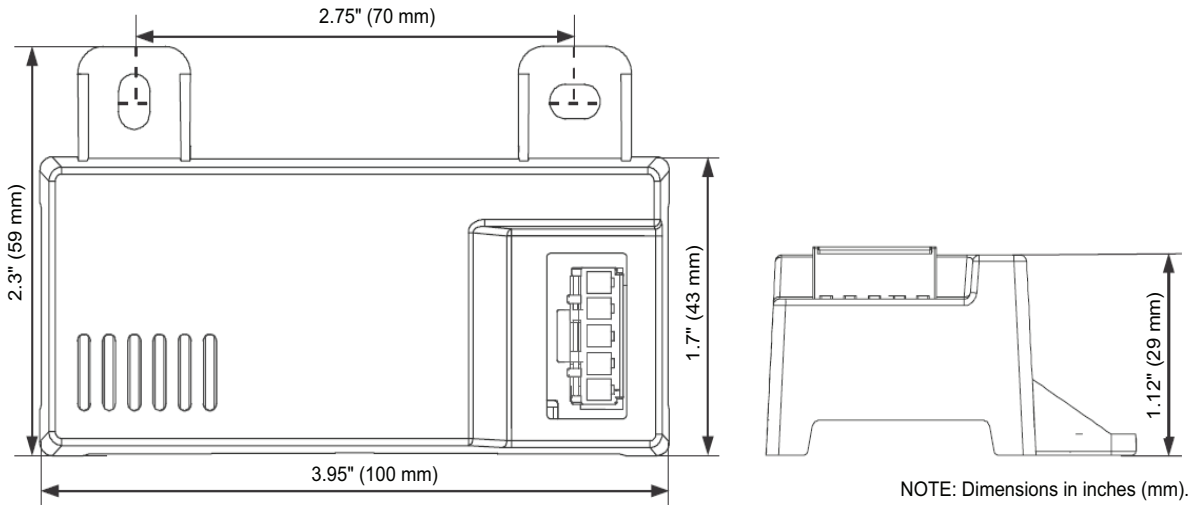
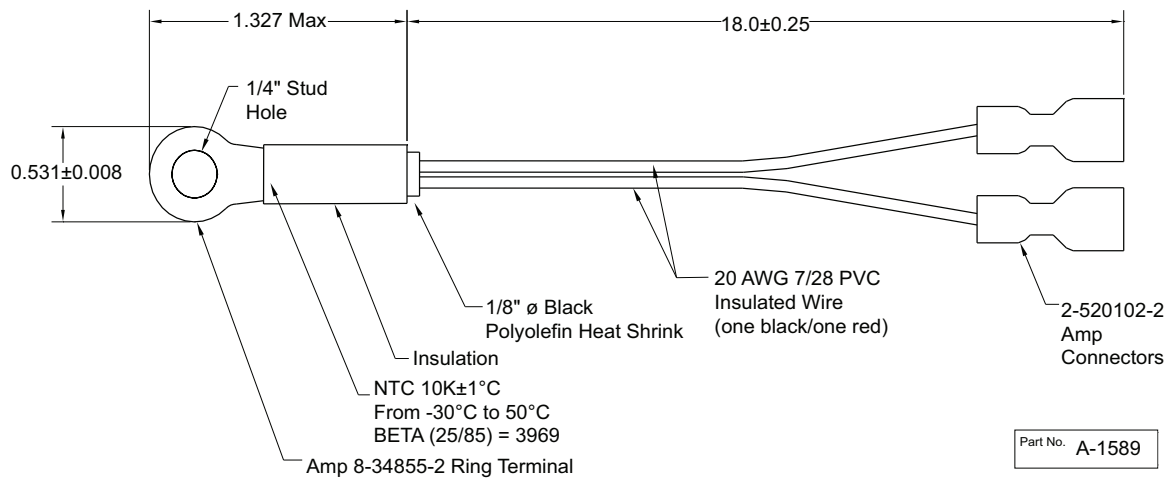
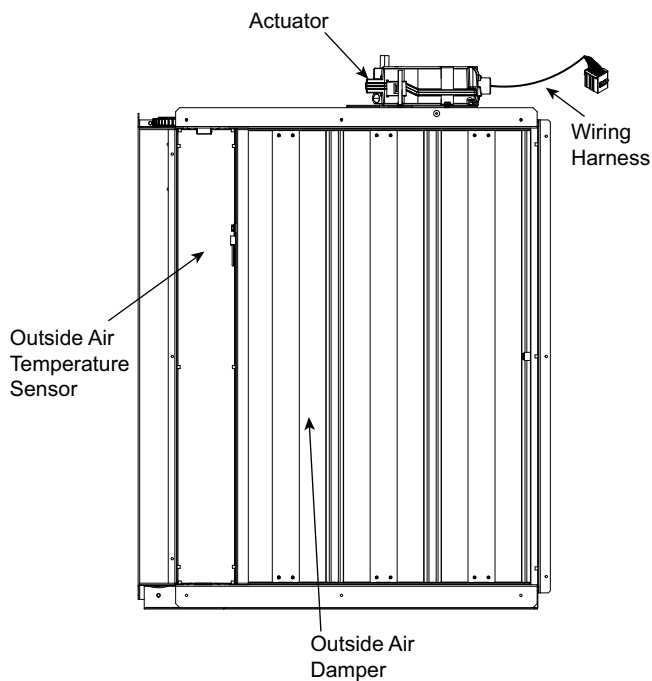

Fig. 90 – HH57LW001 Dimensional, Connection and Switching Information
Fig. 91 – HH79NZ039 Dry Bulb and Mixed Air Sensor Wiring
Fig. 92 – EconomizerONE Component Locations (CRECOMZR108A00 Shown)
When using the HH57LW001 enthalpy sensor (see Fig. 90) for outside air changeover, the existing HH79NZ039 dry bulb sensor (see Fig. 91) must be removed. The enthalpy sensor will be mounted in the same location as the dry bulb sensor (see Fig. 92). When the enthalpy sensor's OA (Outside Air) temperature, enthalpy, and dew point are below their respective setpoints, the outside air can be used for free cooling. When any of these are above the setpoint, free cooling will not be available. Enthalpy setpoints are configurable and create an enthalpy boundary according to the user's input. For additional details, see Fig. 93-94 and Table 27.
The optional enthalpy control sensor (P/N: HH57LW001) communicates with the POL224 economizer controller using the 5-wire harness, 48TC005213. The HH57LW001 sensor can be used as a single outside air enthalpy, a differential return enthalpy, or a differential return temperature sensor. Refer to the base unit control wiring diagrams found earlier in this book to wire the HH57LW001 enthalpy sensor for each option. Use Fig. 90 and Table 29 on page 70 to locate the wiring terminals for each enthalpy control sensor.
Economizers are shipped standard with an HH79NZ039 outside air dry bulb sensor (see Fig. 91). System default setting (high temp limit) is 63°F (17°C) and has a range of 48°F to 80°F (9°C to 27°C). Sensor is factory installed on economizer.
If installing the optional HH57LW001 enthalpy sensor, the HH79NZ039 dry bulb outside air sensor must first be removed. Wire sensor to harness 48TC005213 and the (5) wires from the harness to the EconomizerONE harness in the return air chamber. Harness 48TC005213 has a 5-pin plug that connects directly to the HH57LW001 enthalpy sensor. Refer to the base unit control wiring diagrams earlier in this book for wiring connections. Refer to Fig. 90 and Table 29.